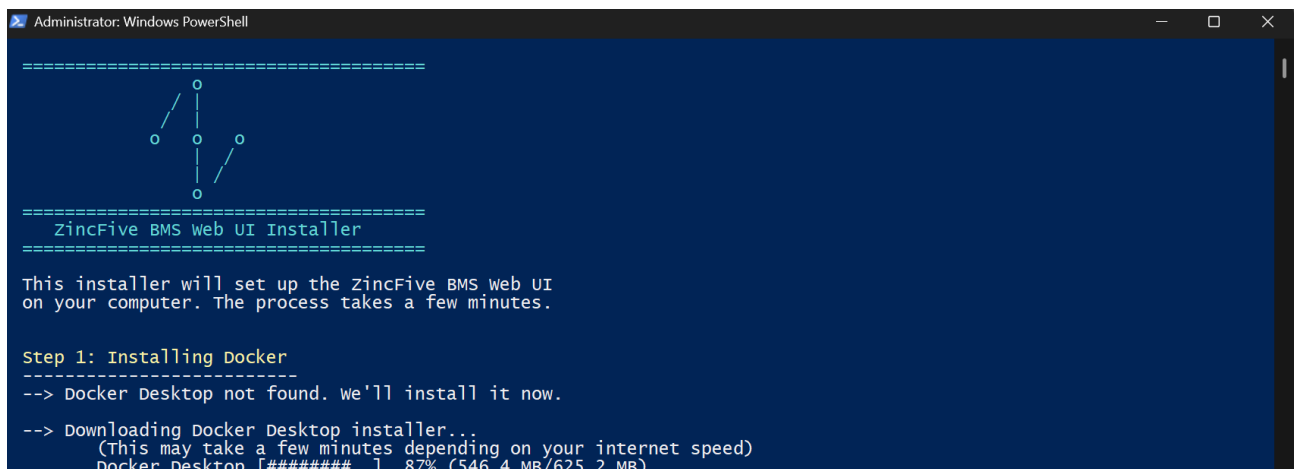

Figure 10- Beginning of installation in the Windows terminal
2. For windows users, double click install-windows.cmd. The installation will include docker desktop - walk through the install wizard until you reach the docker desktop splash screen (Fig.10).